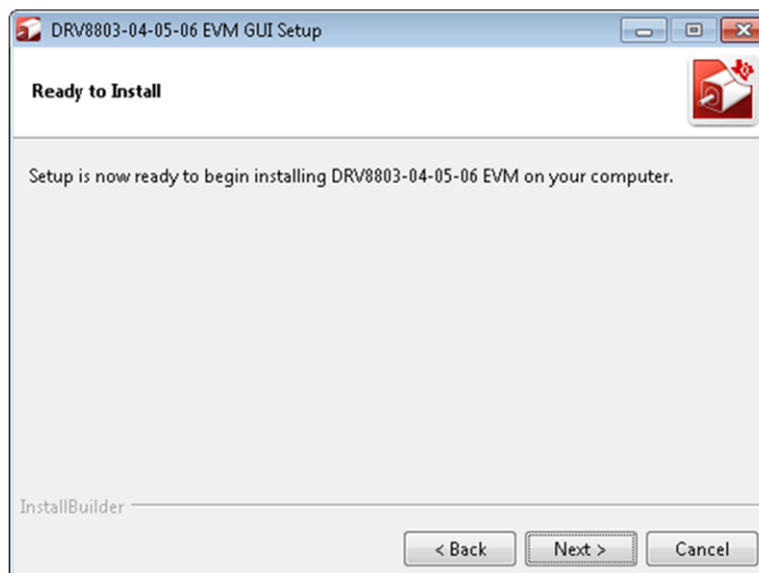

Figure 13. Ready to Install
8. A screen as shown in Figure 13 appears. Click **Next** to begin the installation.